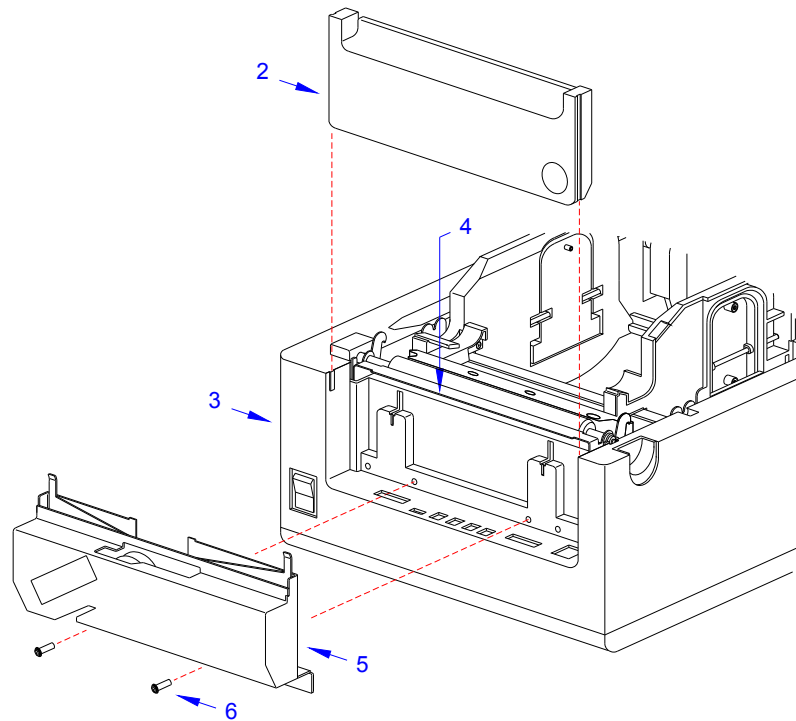

Figure 4-12a, Cutter Installation
- 4 Pivot the dispenser bar (4) upward (Figure 4-12a) to permit cutter assembly (5) installation.